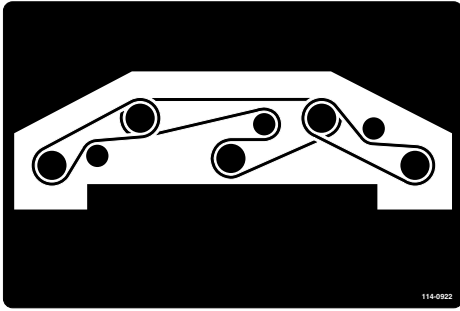

Figure 95
- Route the new belt around the spindle pulleys and idler-pulley assembly (Figure 95).